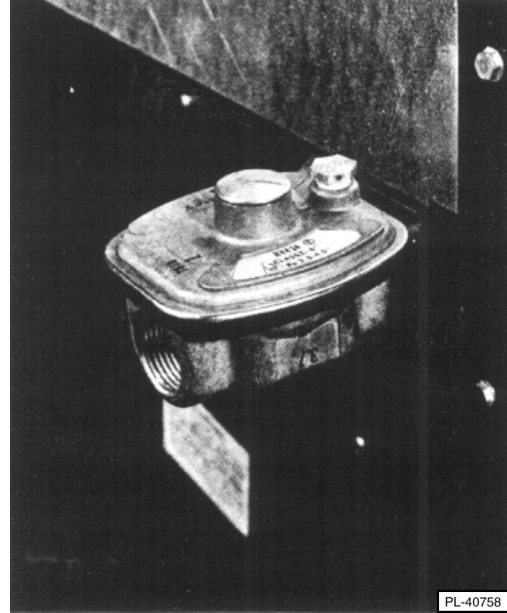

Fig. 10
4. Using pipe wrench, tighten regulator securely in an upright position (Fig. 10). The pressure regulator must be mounted horizontally to ensure proper preset outlet pressure. If the regulator is mounted in any other position, the outlet pressure must be reset.